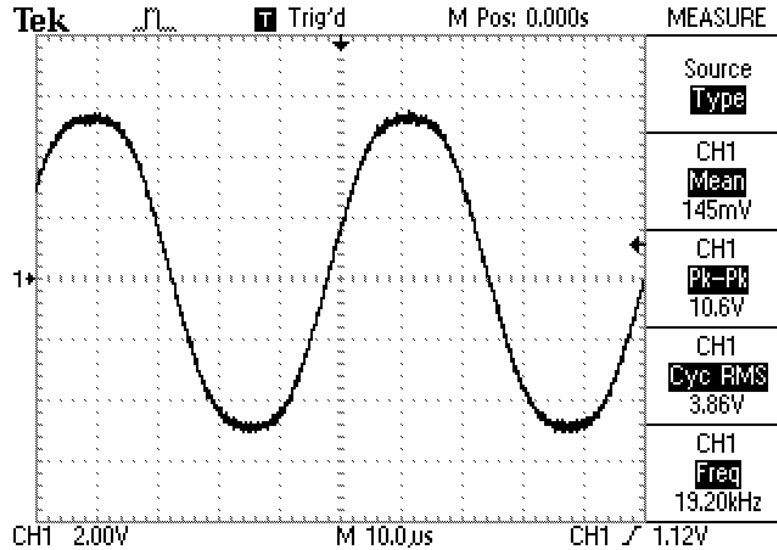

Figure 12: Oscilloscope Display of 20 kHz Sine Wave
14. [] Gradually turn the A&D FINE FRQ (5 kHz to 20 kHz) knob clockwise and verify that the frequency increases up to approximately 20 kHz at 10V Pk-Pk as shown in Figure 12.